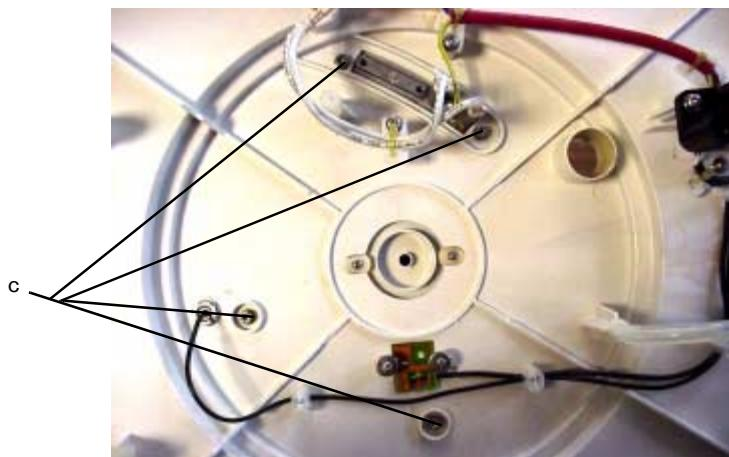

Fig. 142 Attachment of stator/heating element assembly
15. Secure new stator/heating element assembly to plate using screws and washers (c), see Fig. 142 (Note: The tightening torque of the screws is 3.5 +0.5 Nm!).